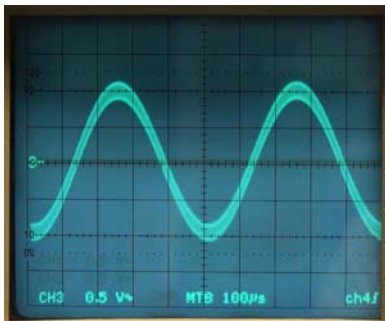

Figure 2.1. Signal with 250 kHz switching noise
- The PL380 is a class D amplifier; as such, it uses a process that results in some residual 250 kHz switching noise in the amplifier output signal; this noise could produce misleading results in measurement of power, percent THD, and noise. We recommend using a low-pass filter such as the Audio Precision AUX-0025 to reduce the noise prior to the analyzer. Figures 2.1 and 2.2 show the PL380 amplifier's output signals with and without the AUX-0025 filter.